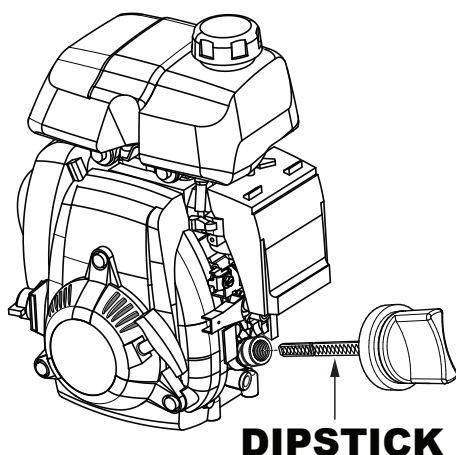

Figure 5. Engine Oil Dipstick Removal
2. Remove the engine oil dipstick (Figure 5) from the engine oil filler hole and wipe it clean.